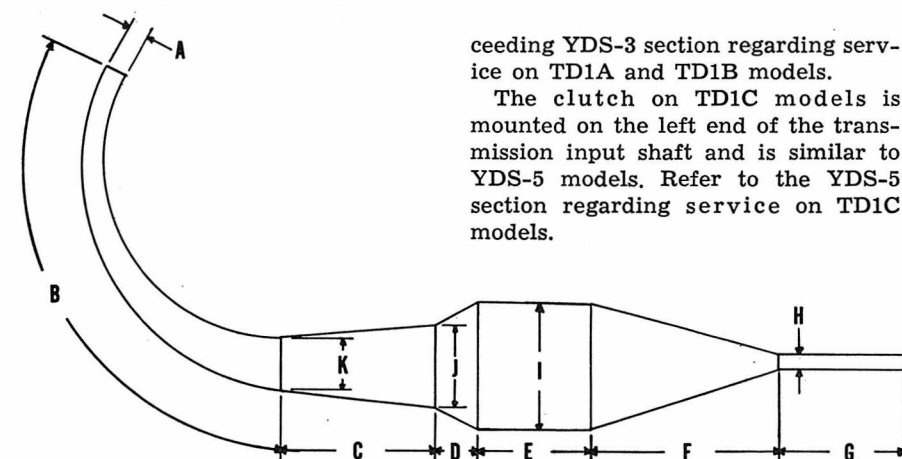

Fig. Y6-4—Basic diagram of TD-1 expansion chamber. Refer to text for specifications.
**EXPANSION CHAMBER.** An expansion chamber with the characteristics of the 1968 Daytona road racer may be constructed with the following specifications. (Refer to Fig. Y6-4).